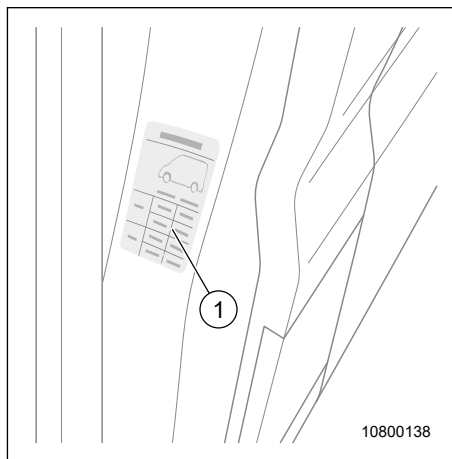

Fig. 79 Sticker position
- The inflation pressures can be obtained from a sticker (Fig. 79) on the vehicle.